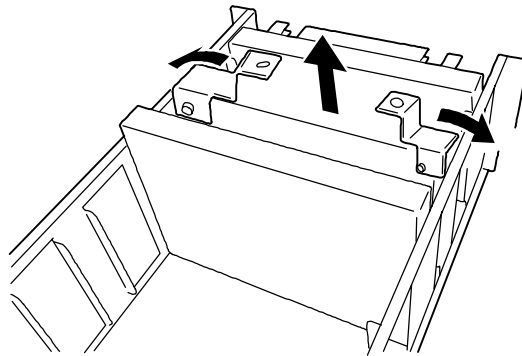

Figure 4-10. Removing the Termination Board
10. Open the latch levers by pushing them towards the outside and remove the termination board (see Figure 4-10).